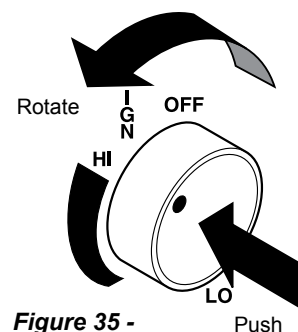

Figure 35 -
10. Push in control knob and turn counterclockwise  to the HIGH setting. At this location the control knob will pop out when positioned correctly. The knob can now be positioned at any position between HIGH and LOW. Figures 35 and 36